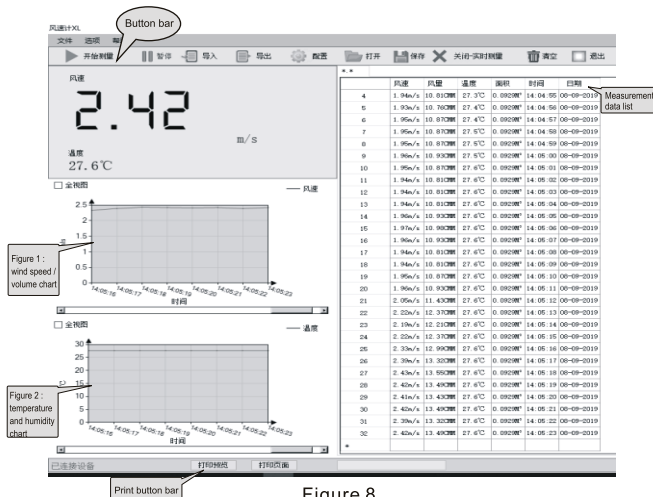

Figure 8
- Display area: switch wind speed and volume according to the instrument, the corresponding curve will be displayed in display area (line chart); as shown in Figure 8 below.